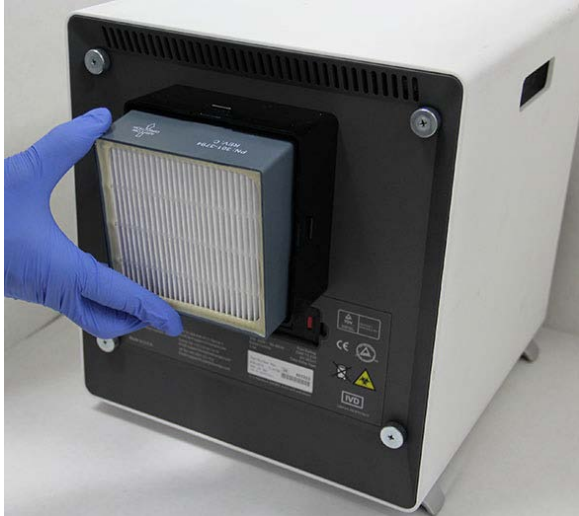

Figure 9-29. Replacing the HE Filter
1. Place the new HE filter into the filter housing. The arrow on the HE filter points inward toward the instrument. See Figure 9-29.